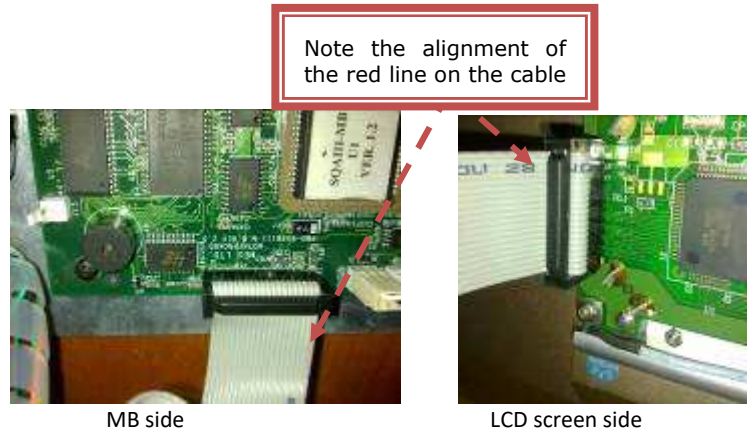

Figure 2: Verify the flat cable is properly connected
7. Verify that the harness that connects the user screen and the main board is in the correct position and is properly connected (see Figure 2).
<p>Stage 1: Re-seating the processor to the correct position:</p> <ol style="list-style-type: none"> 1. Turn off the SQA and disconnect the power supply cable. 2. Remove the 4 screws on the rear panel using a Philips screw driver #2 (Fig.1) and open the SQA (Fig.2) 	 <p style="text-align: center;">Fig. 1-2: Open the SQA</p>